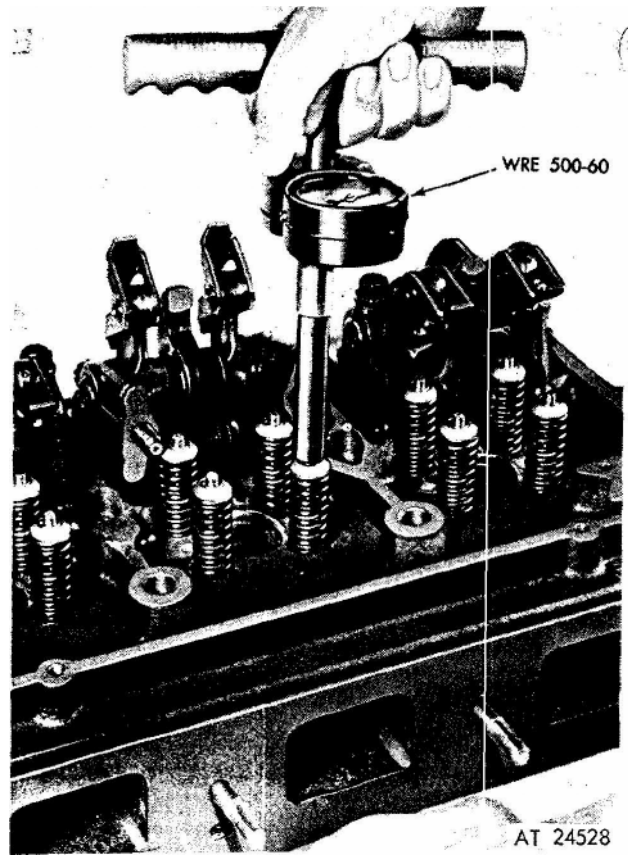

Figure 15. Checking exhaust valve opening with spring checking gage WRE-500-60.
8. With the exhaust valves installed in the cylinder heads, and using spring checking gage WRE 500-60, note the gage reading the moment the exhaust valve starts to open (fig. 15). The minimum pressure required to start to open the exhaust valve must not be less than 25 pounds for a four valve cylinder head.